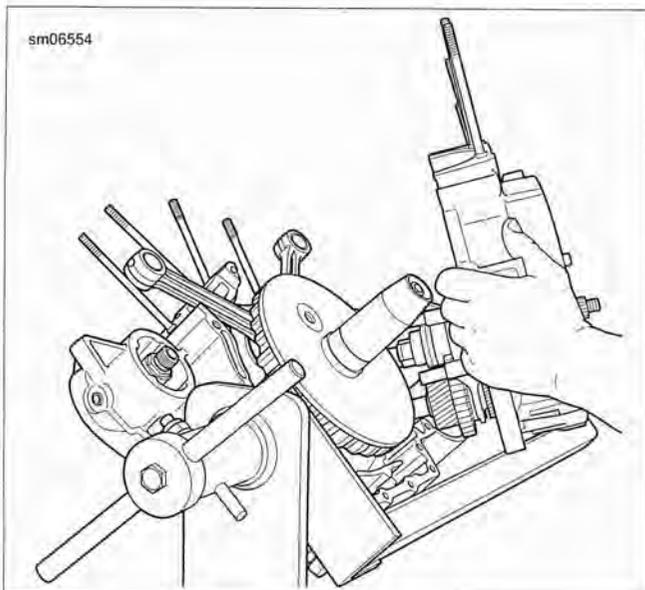

Figure 5-96. Assembling Crankcases With Crankshaft Guide Tool (Part No. HD-42326-A)
4. See Figure 5-96. Assemble crankcase halves together.